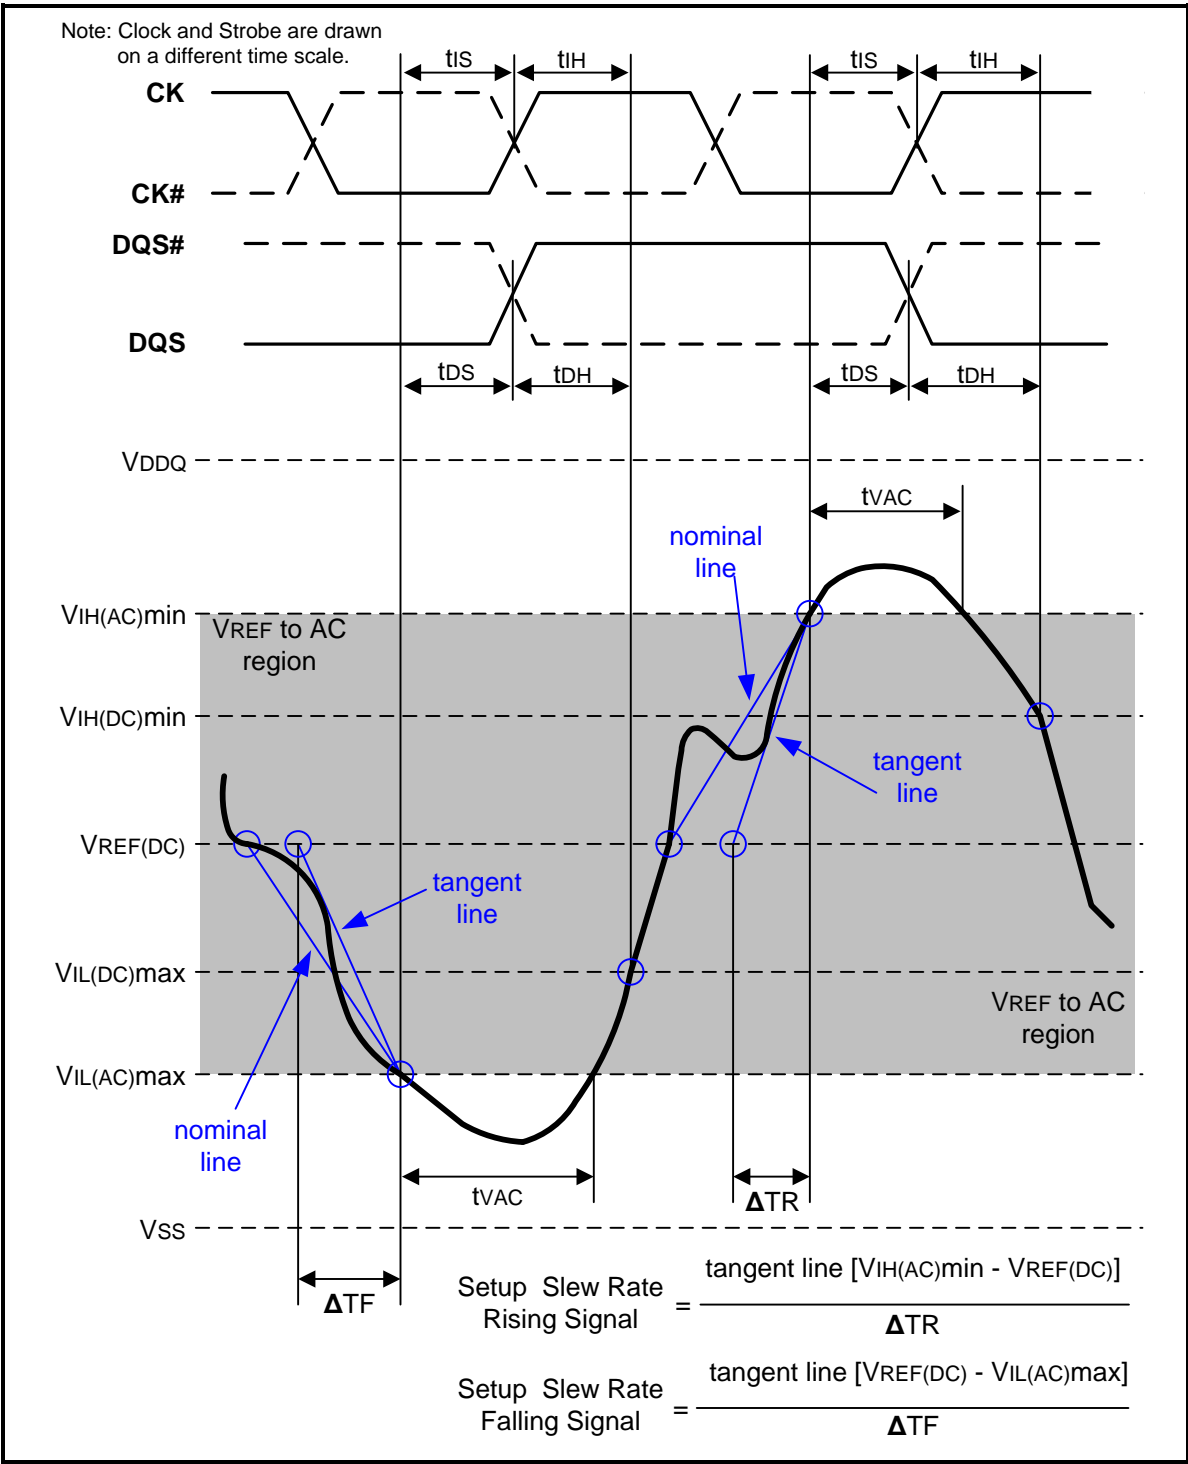

Figure 109 – Illustration of tangent line for setup time tds (for DQ with respect to strobe) and tis (for ADD/CMD with respect to clock)
Setup ( $t_{IS}$ ) nominal slew rate for a rising signal is defined as the slew rate between the last crossing of  $V_{REF(DC)}$  and the first crossing of  $V_{IH(AC)min}$ . Setup ( $t_{IS}$ ) nominal slew rate for a falling signal is defined as the slew rate between the last crossing of  $V_{REF(DC)}$  and the first crossing of  $V_{IL(AC)max}$ . If the actual signal is always earlier than the nominal slew rate line between shaded 'VREF(DC) to AC region', use nominal slew rate for derating value (see Figure 107). If the actual signal is later than the nominal slew rate line anywhere between shaded 'VREF(DC) to AC region', the slew rate of a tangent line to the actual signal from the AC level to  $V_{REF(DC)}$  level is used for derating value (see Figure 109).
Setup (tDS) nominal slew rate for a rising signal is defined as the slew rate between the last crossing of VREF(DC) and the first crossing of VIH(AC)min. Setup (tDS) nominal slew rate for a falling signal is defined as the slew rate between the last crossing of VREF(DC) and the first crossing of VIL(AC)max (see Figure 107). If the actual signal is always earlier than the nominal slew rate line between shaded 'VREF(DC) to AC region', use nominal slew rate for derating value. If the actual signal is later than the nominal slew rate line anywhere between shaded 'VREF(DC) to AC region', the slew rate of a tangent line to the actual signal from the AC level to VREF(DC) level is used for derating value (see Figure 109).